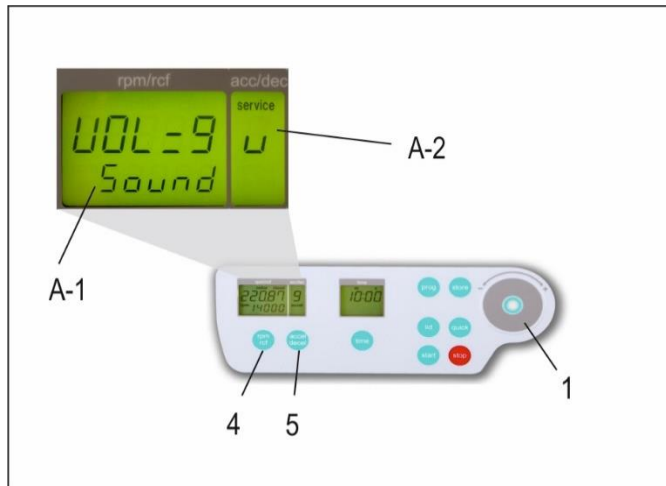

Figure 8
Proceed as illustrated, under point 1.8.1, to enter this program mode, press the key "accel/decel" (5). In the display, "accel/decel" (A-2), flashes the word, "service". Select the letter, "U" with the control field (1). As a result, appearing in the display, "rpm/rcf" (A-1), are the words, "Vol=0- 9/Sound". By pressing the key, "rpm/rcf" (4), the desired volume can be adjusted between 0 (low) and 9 (loud), with the control field (1), (see Figure 8).